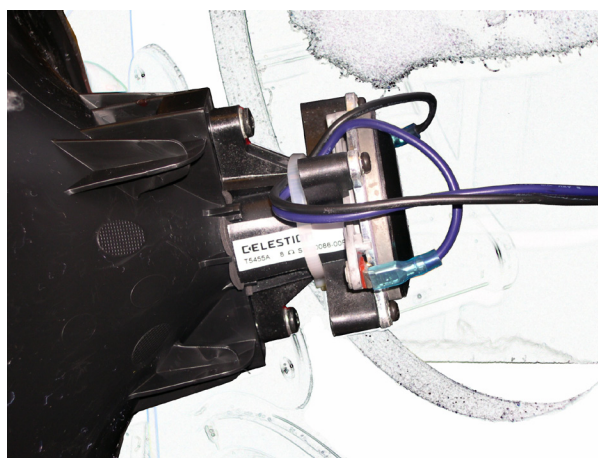

Figure 4. To provide mechanical strain relief, use a tie wrap to secure the wires to the body of the compression driver.
- Place the gasket on the throat of the waveguide and set the new compression driver in place on it. Attach the driver to the waveguide using the screws ⑤ and washers ⑧. Tighten the screws securely but do not overtighten them.
- On the HPR153i, apply threadlocking compound to the screws ⑤ and reattach the support bars on the compression and midrange drivers. Tighten the screws securely but do not overtighten them.
- Reattach the wires to the compression driver terminals (purple to +, black to -). With the tie wrap, secure the wires to the body of the compression driver so the connections do not have excessive strain (Figure 4). After you tighten the tie wrap fully, cut off the excess length.